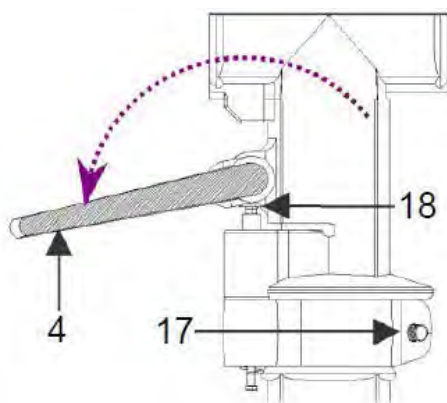

Fig. 29: Memo handle
Step 4: Tighten the memo handle (Pos. 4, Fig. 29) firmly.